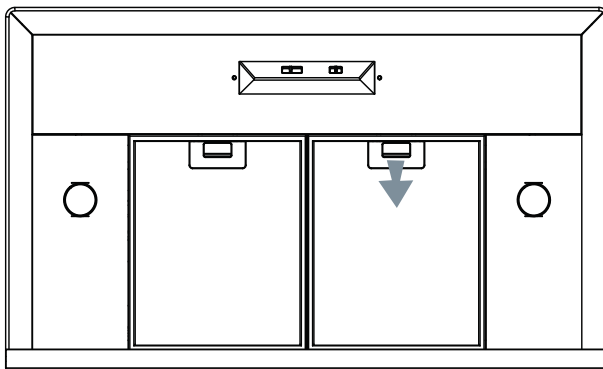
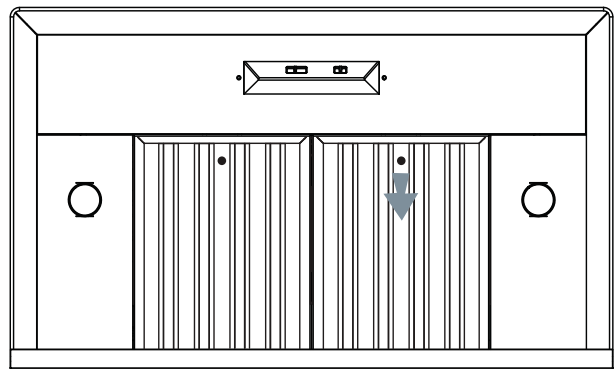

Fig 5
Fig 6
**Removing Mesh (Fig 5) & Baffle Filters (Fig 6)**